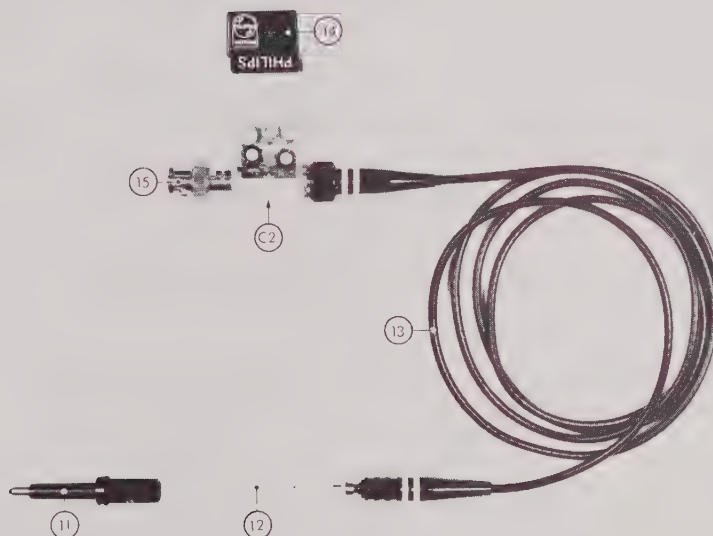

Fig. 1.11. Dismantling the probe
Dismantling the probe (see Fig. 1.11.)
Dismantling the compensation box (see Fig. 1.11.)
1.4.5.1. Mechanical parts (see Fig. 1.11, and 1.12.)